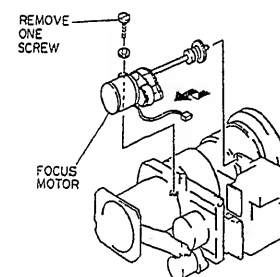

Fig. 2-103
1. Remove one (1) screw holding the focus motor. (See Fig. 2-103)